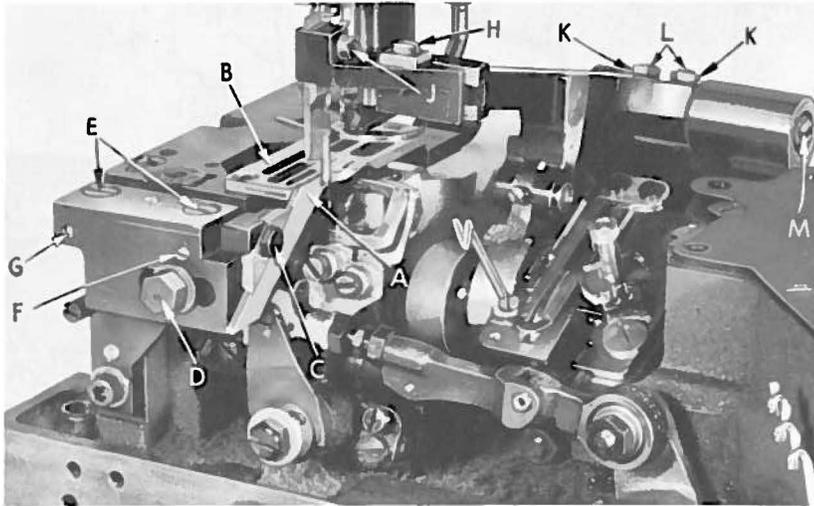

Fig. 14
The cutting edge of the lower knife (A, Fig. 14) should be set level with the top of the throat plate (B). This can be accomplished by loosening screw (C), move lower knife up or
down as required and retighten screw. The trimming edge of lower knife should be aligned with the center of the right needle. This can be accomplished by loosening screw (D), turn screw (A, Fig. 15) toward the operator to move knife to the left and turning it away from the operator acts the reverse. When desired position of knife has been obtained, retighten screw (D, Fig. 14). The shear angle of the lower knife should be set at about 1 degree. This adjustment can be made by loosening screws (E) and turning screw (F) counterclockwise and screw (G) clockwise until the 1 degree is obtained, turning screws (F) & (G) in the opposite direction will decrease the shear angle. Retighten screws (E).
The upper knife should be set to trim the full length of its blade. Positioning of knife to the left or right can be accomplished by loosening screw (H, Fig. 14). Positioning of knife upward or downward can be accomplished by loosening screw (J). When desired position of knife has been obtained, retighten screws. Should forward or rearward repositioning of upper knife become necessary, loosen lock nuts (K) and loosen Allen head screws (L), then turn eccentric pin (M) as required. Retighten Allen head screws and lock nuts.